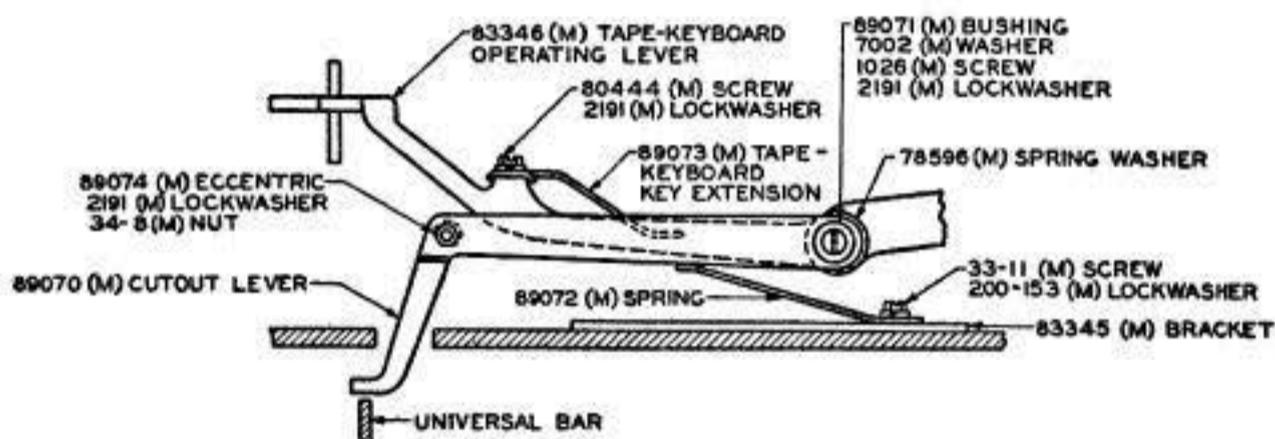

Fig. 1
2.03 Referring to Fig. 1 mount the 89073 (M) tape-keyboard key extension furnished with the parts on the 83346 (M) tape-keyboard operating lever using the hole which mounted the stop screw so that the free end of the extension will bear on the trip-off pawl just to the rear of the trip-off pawl spring. Use the 80444 (M) screw and 2191 (M) lockwasher furnished to mount the extension.